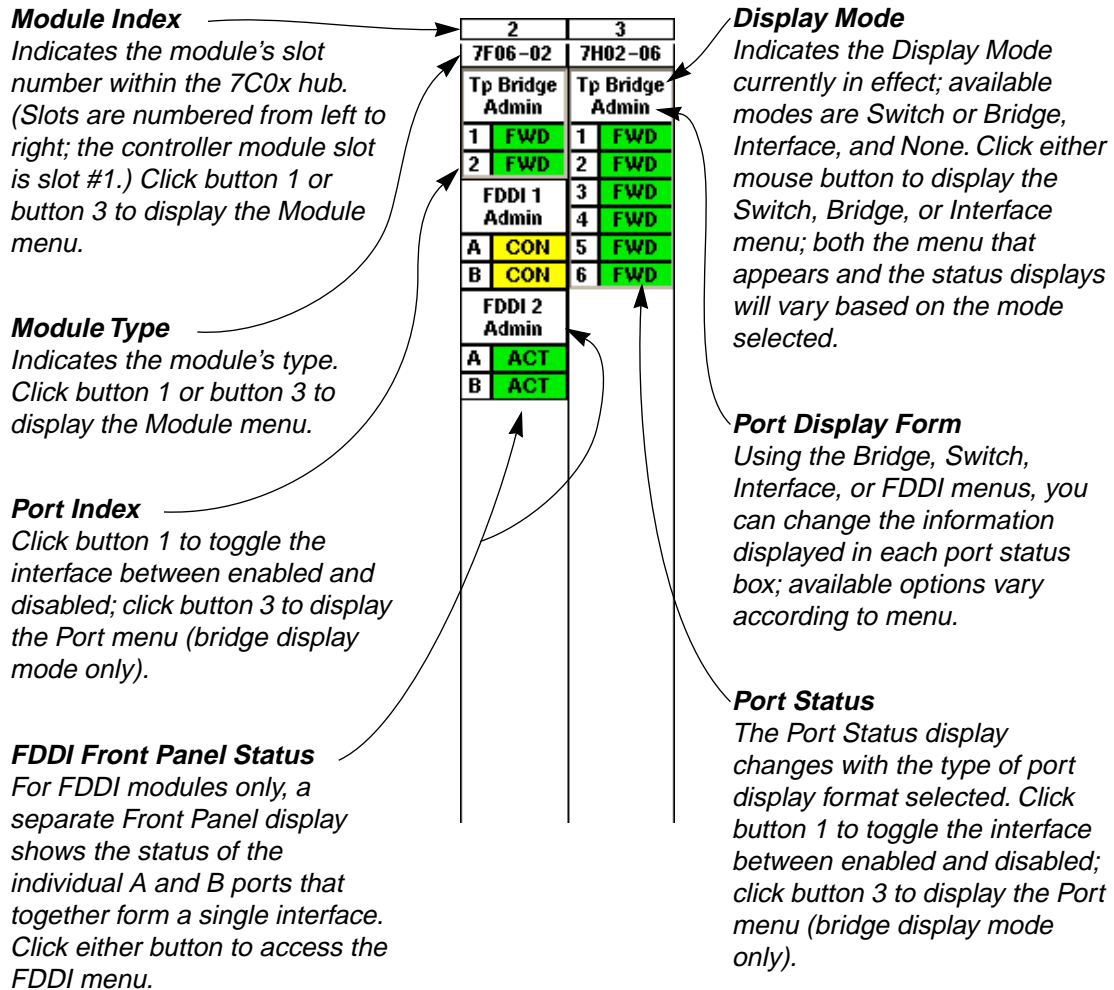

Figure 2-3. Mousing Around a Module Display
1. Click mouse button 1 or mouse button 3 in the Module Index or Module Type display boxes in the Hub View (see Figure 2-3, page 2-5) to display the Module menu.